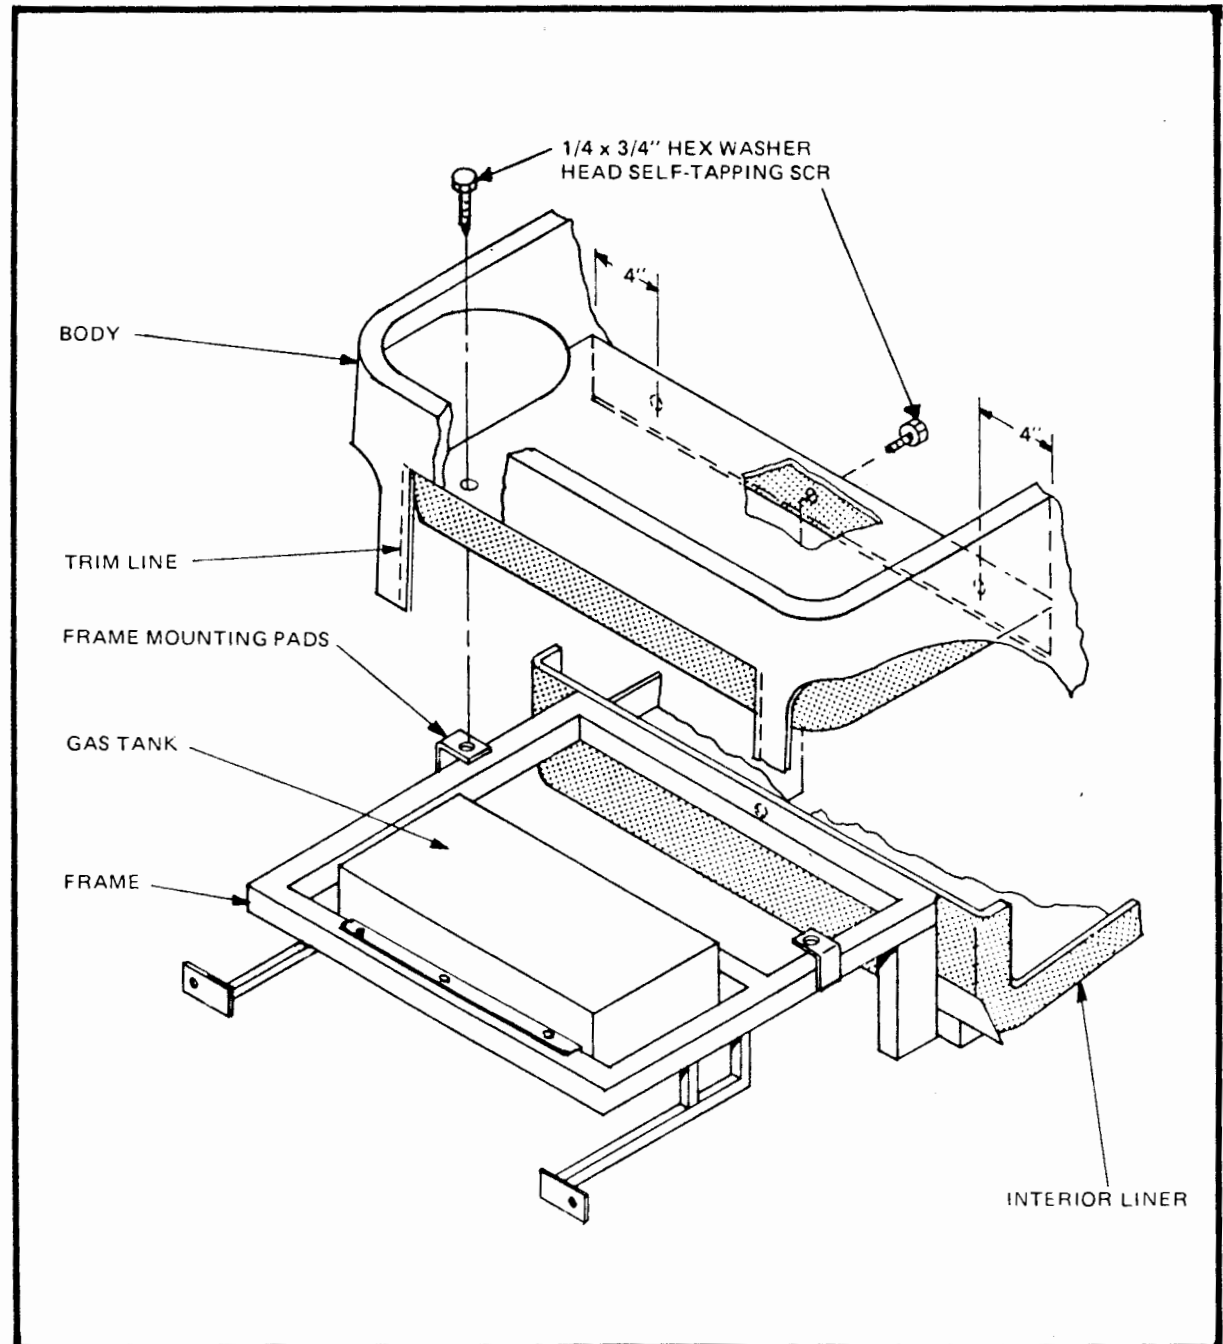

Figure 34
- Trim rear of body to line if not already done. Drill pre-marked holes as shown (1/4" drill). Set body onto frame, pushing it back as far as possible. Be sure body is seated on the two mounting pads on the frame. (Figure 34)